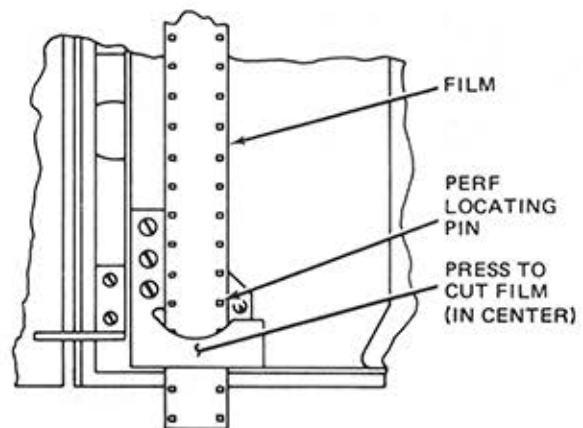

Figure 2-1. Film Cutter
3. Place end of film in film cutter (on inside of door, figure 2-1) and clip.